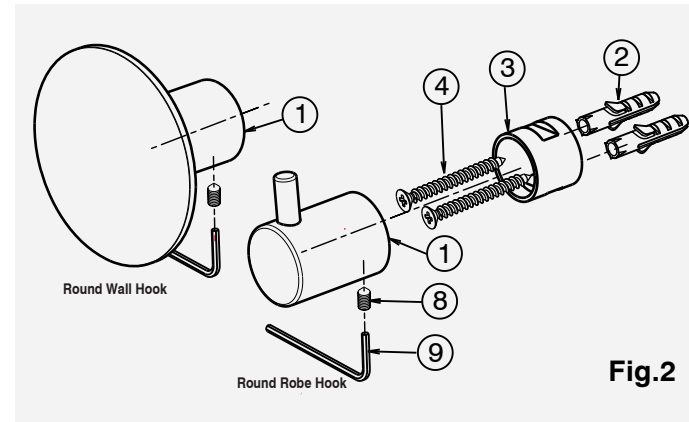
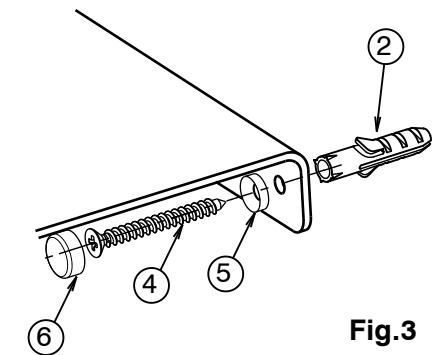

Fig.2
Fig.3
Centre to centre holes on fixing plate for Round Wall Hook and Round Robe Hook (Fig. 2) is 13mm.
- ii) Insert rounded end of wall plugs (2) into drilled holes and push in until flush with the wall surface.
- iii) For fixing plate (3) mounts, fit screws (4) through holes in fixing plates before screwing into wall plugs (2). Ensure orientation of fixing plates is as pictured.
- iv) Check alignment of all fixing plates (3) then tighten screws (4).
- v) For Toilet Roll Holder with Shelf (Fig. 3), fit screws (4) in Countersunk washers (5) and then through holes in accessory before screwing into wall plugs (2).
- vi) Ensure shelf is level and tighten screws (4).
- vii) Cap (6) can now be attached to Countersunk washer (5).
- i) Determine a suitable position to attach fixing plates (3) and screw location so they can be fixed to a stud or noggin in the wall. Ensure correct orientation of fixing plates.
- ii) For fixing plate (3), fit screws (4) through holes and screw directly into stud or noggin. Check alignment of all fixing plates (3) before tightening screws (4).
- iii) For Toilet Roll Holder with Shelf (Fig. 3), fit screws (4) in Countersunk washers (5) then through holes in accessory before screwing into stud or noggin.
- iv) Tighten screws, Cap (6) can now be attached to Countersunk washer (5).
- B)** For fixing plate (3) mounts, loosen the fixing screws (8) on the accessory using Allen key (9) provided. Slide covers (7) (not required with hooks Fig.2) onto fixing plates (3) then install accessory (1) onto fixing plates (3), making sure that fixing screws (8) are located underneath as shown. With accessory resting securely against fixing plates (3), tighten the fixing screws (8) using Allen key (9) provided.